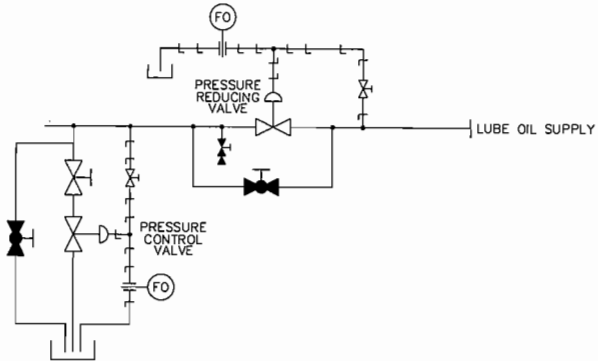

Figure 11. Pressure Control and Pressure Reducing Valves with Isolation and Bypass Valves.
- If continuous duty is required or the process pump is unspared, the design should include isolation bypass and drain valves as shown in Figure 11. Note that for reducing valves, two isolation valves are required.